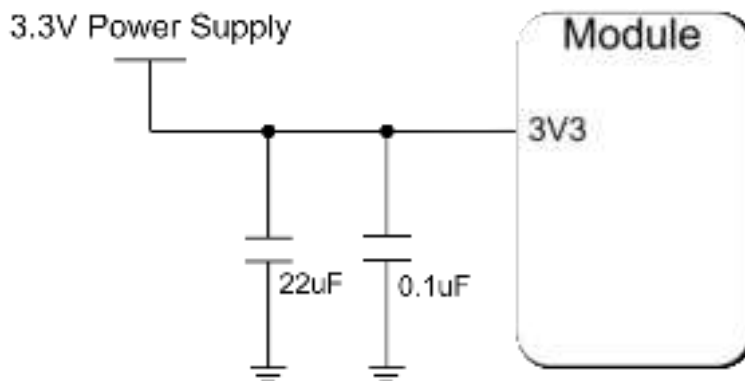

Figure 3.2 Module power supply reference circuit
- When the module operates in TX mode, the instantaneous current becomes large, so the power supply is required to have a power supply capacity of 500mA or more, and a 22 μ F capacitor and a 0.1 μ F capacitor are placed close to the pins on the power supply alignment of the module, as shown in Figure 3.2;